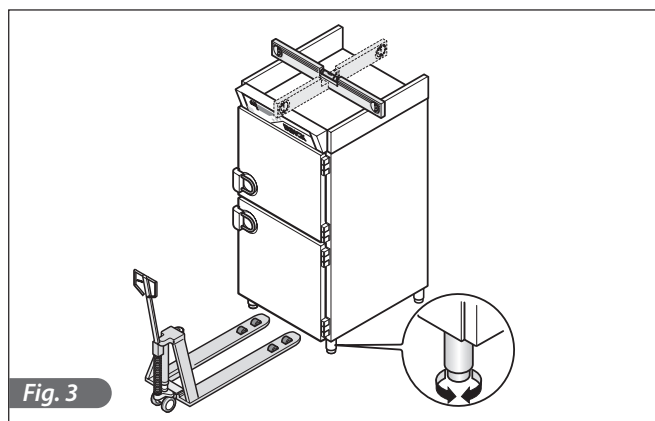

Fig. 3
- Permanently level the appliance by means of the adjustable feet. Use special hoisting apparatus for the heaviest machines (fig. 3).